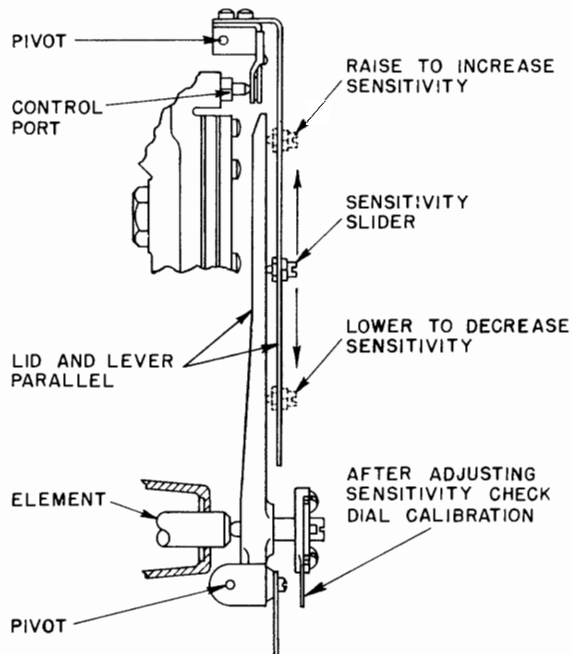

FIG. 31: SENSITIVITY ADJUSTMENT
cessive hunting or cycling. To change the sensitivity adjustment, see Fig. 31.
- 1 SET SENSITIVITY ADJUSTMENT. SEE FIG. 31